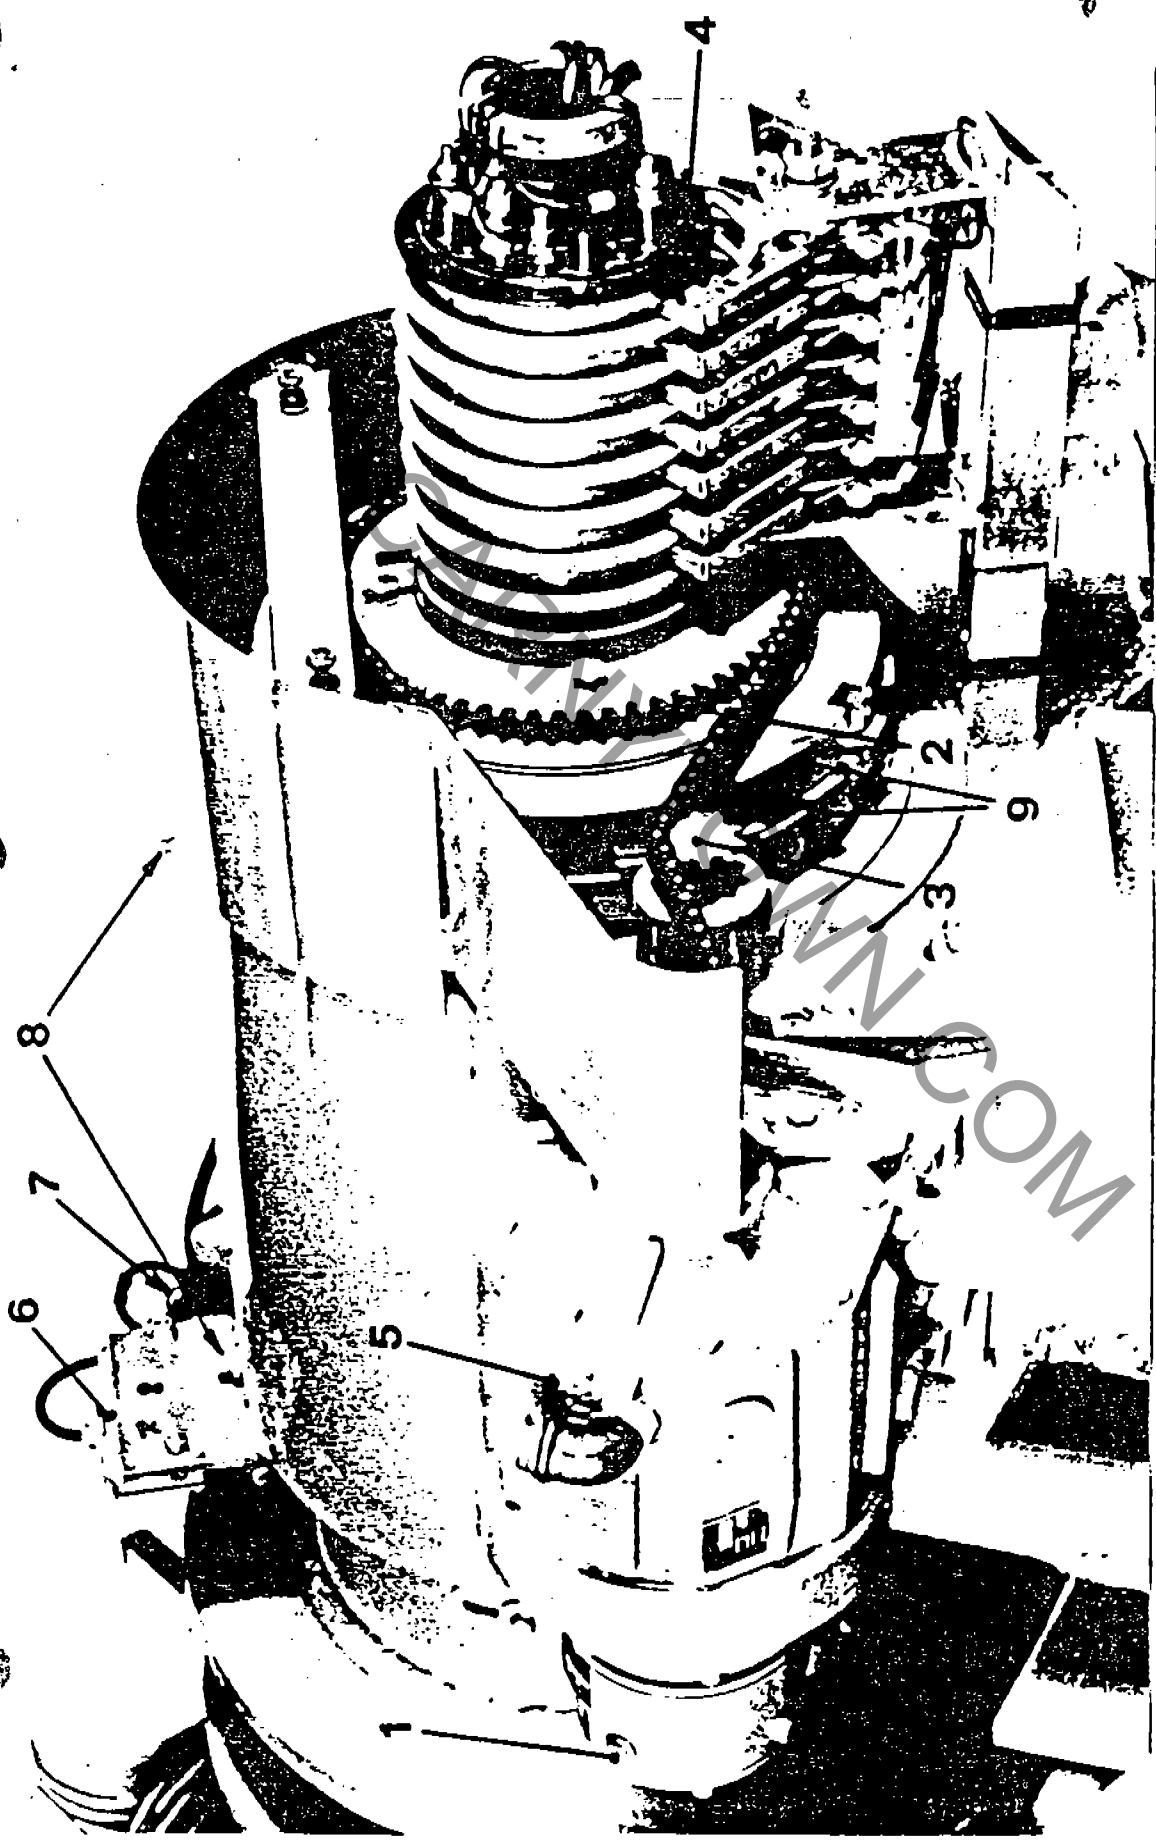

FIG. 6
1 aligned with the motor (Fig. 2), and 1 on top (1 fig. 6).
- f) Check the tension of the chain (2 fig. 6), and adjust it by means of the chain stretcher (3 fig. 6).
- g) Check oil on the reduction unit (5 fig. 6).
- h) Check wear of the brushes (4 fig. 6).
- l) Feed grease into the ball bearings by means of relevant nipples (8 fig. 6).
- e) Check the micro-contact (6-7 fig. 6).
- f) Check that adjusting ring nuts of ball bearings are tight (9 fig. 6).